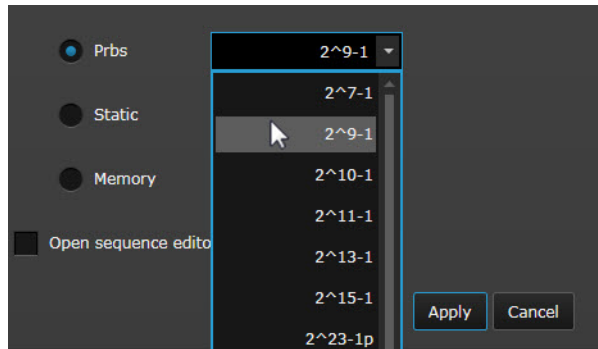

Figure 22 Select PRBS and Polynomial
- 5 In the **Select Sequence Pattern** dialog, select **Prbs** as the **Pattern Type** and then select  **$2^9-1$**  as the **Polynomial** as shown in Figure 22 on page -53.